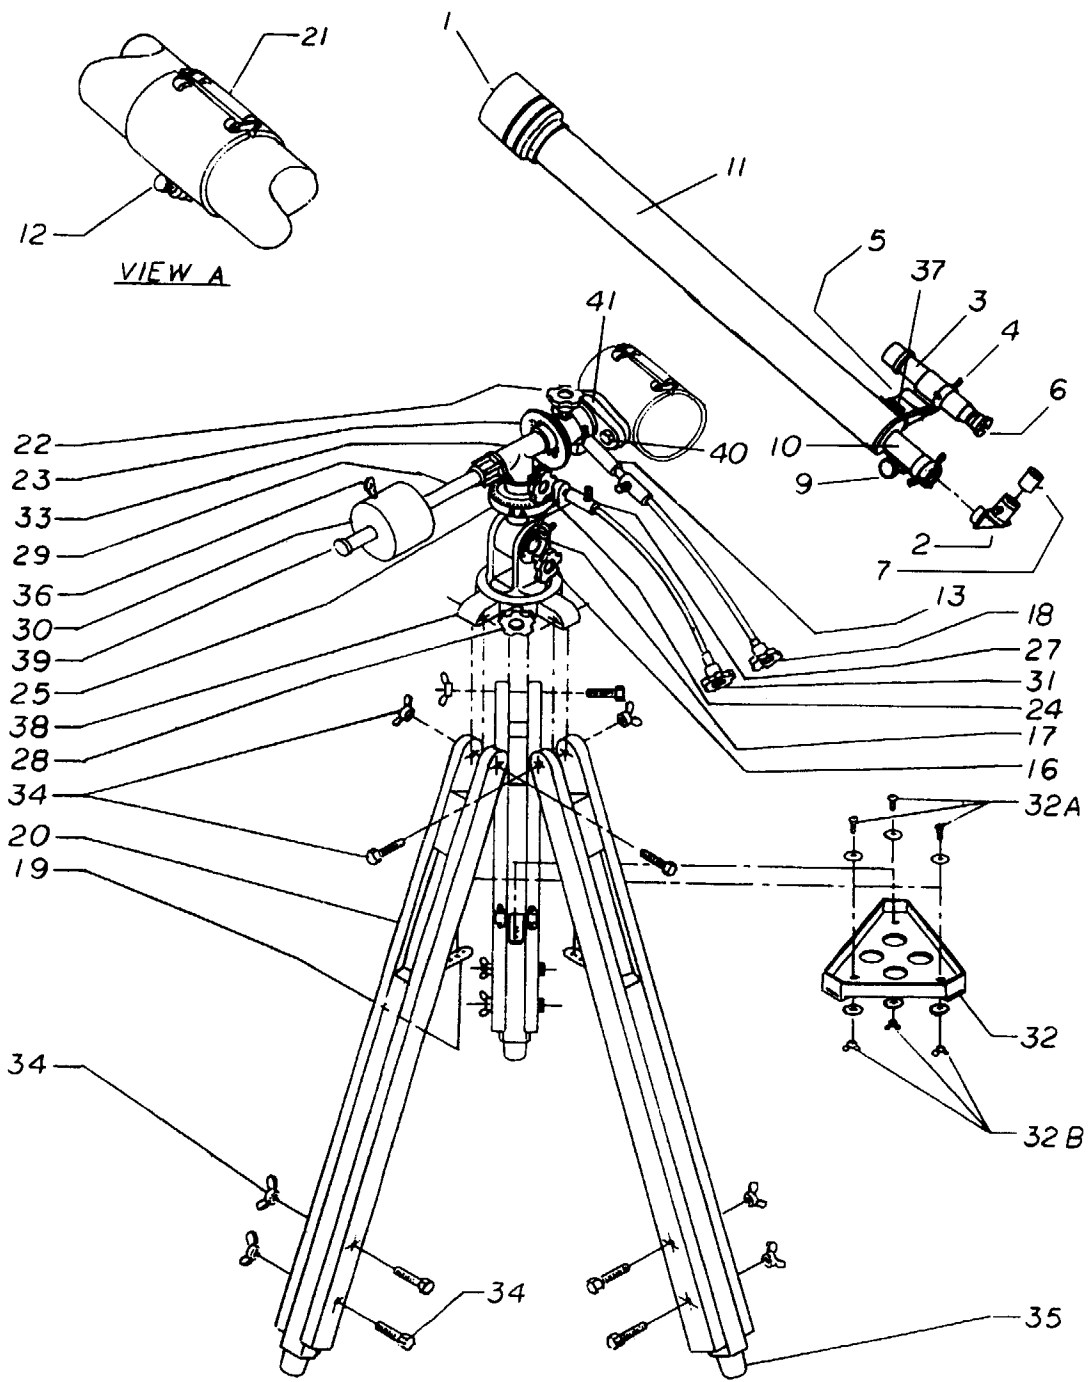

Figure 1
Identifying Parts of Figure 1
Please refer to figure 1 (and the identifying parts list) as you assemble the telescope.
- B. Before proceeding further, locate knobs #16, #22, #24 and #28 and tighten all of them finger tight after orienting the mount as illustrated in figure 1.
4. Slide the counterweight shaft (#29) through the counterweight (#30). Use the counterweight lock (#36) to lock the counterweight in place. By holding the counterweight in one hand, thread the counterweight shaft clockwise into the equatorial mount (#33) as shown in figure 1.
1. Remove the two bolts (with the supplied wrench) and washers (#40) from the telescope tube mount bracket (#21). Put the bolts through saddle bracket (#41), as shown in Figure 1, into the telescope tube mount bracket and tighten.
2. Loosen the tube mount bracket (#21) with the knob (#12) and open the bracket. Hold the tube in the orientation as noted in figure 1. Holding the optical tube in place with one hand, close the tube mount bracket and tighten the bracket knob to firmly hold the optical tube. NOTE: The optical tube may come already mounted in the bracket